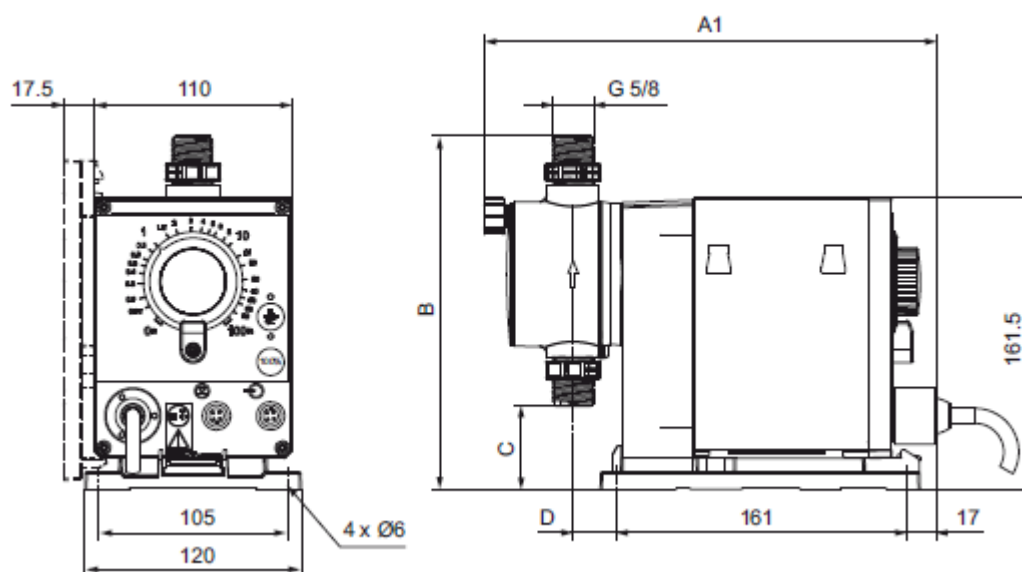

Fig.3 Dimensional drawing
- The mounting plate can be used as a drill template, please see fig. 3 for drill hole distances.